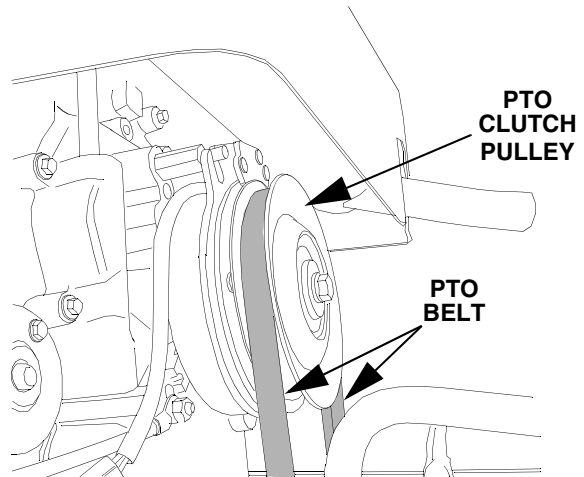

Figure 38
4. Open the tractor hood and remove the forward end of the PTO belt from the PTO clutch pulley on the front of the engine (Refer to Figure 38).